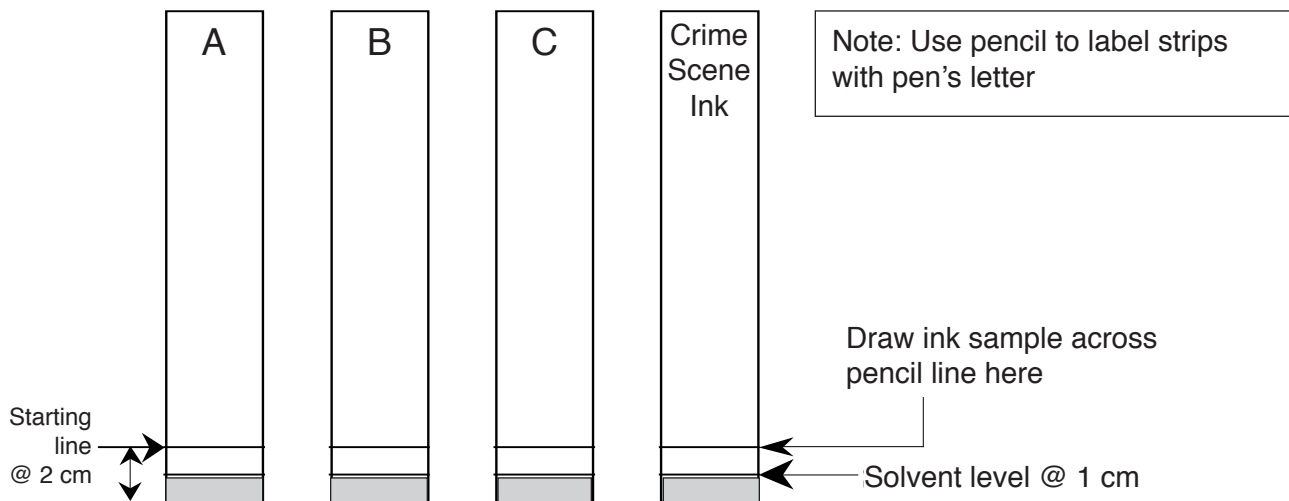

Figure 1. Setup for Paper Chromatography
2. Using a pencil (**NOT a pen!**), draw a horizontal line 2 centimeters on the end of each strip (see Figure 1).
3. Using a pencil (**NOT a pen!**), label the top of the three strips “A,” “B,” and “C” (or “D,” “E,” “F”) to represent pens from each of the suspects (See Figure 1).